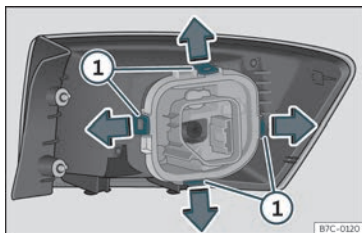

Fig. 48 Retaining tabs on reverse side of tail light.
- Disassemble the bulb holder unlocking the securing tabs >>> **Fig. 48** ①.